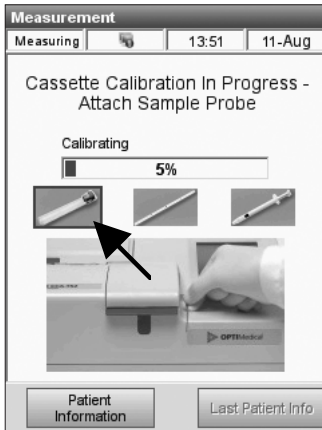
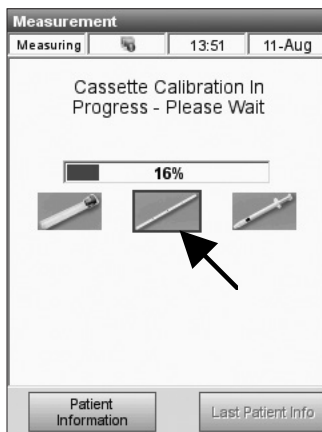
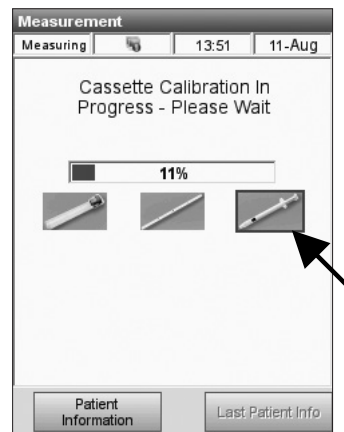

Fig. 5-10 E-Lyte CCA Cassette - Sample Tube selected
Fig. 5-11 E-Lyte CCA Cassette - Capillary selected
Fig. 5-12 E-Lyte CCA Cassette - Syringe selected
- When an E-Lyte CCA Cassette is inserted, the calibration screen will display the default selection for the sample container (Fig. 5-10) as selected in the **<Sample Container Menu>** (see Section 3.2.2.8). If necessary, you may change the sample container during calibration by selecting a different icon (Fig. 5-11 and Fig. 5-12).